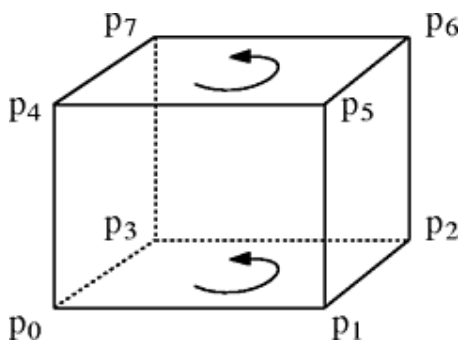

Figure 16.15: Numbering of points in a hexadron with positive volume.
- The `hexas` array describes the actual hexahedra. For each hexahedron, the indices of the eight points and the indices of the six faces it consists of are stored. The numbering of the points is shown in Figure 16.15. Degenerate cells such as prisms or tetrahedra may be defined by choosing the same index for neighboring points.